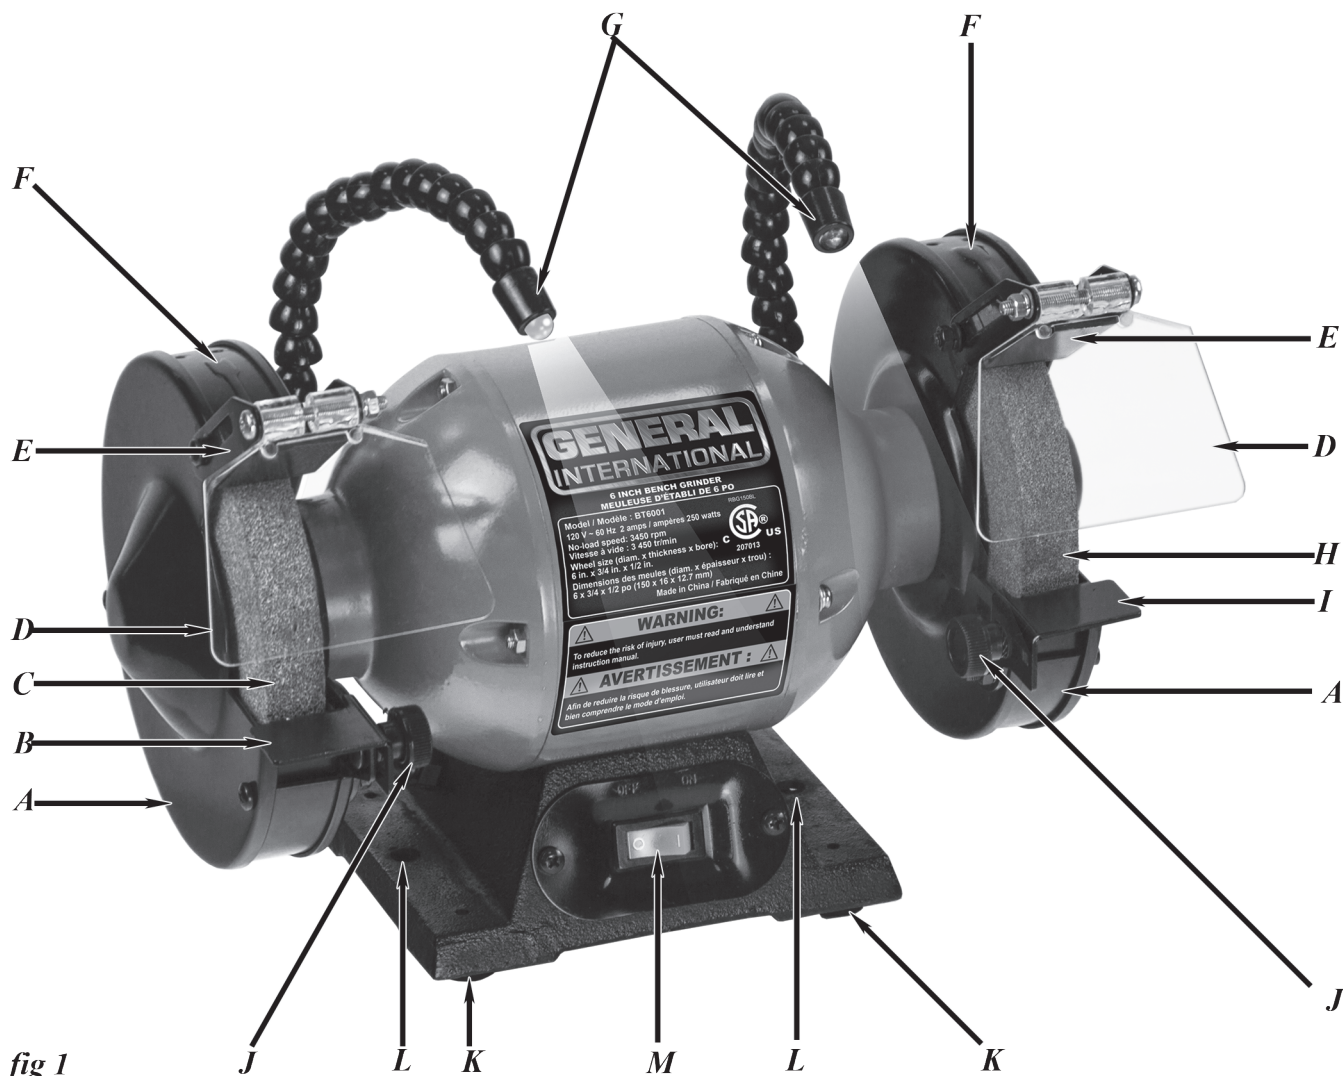

fig 1
2. Use the holes in the base of the bench grinder (L, fig 1) to mark and pre-drill the mounting holes. If it is to be used in one location, permanently secure it to the work surface. Use bolts, washers, lockwashers and nuts, keeping in mind the inherent vibration a bench grinder in operation produces.